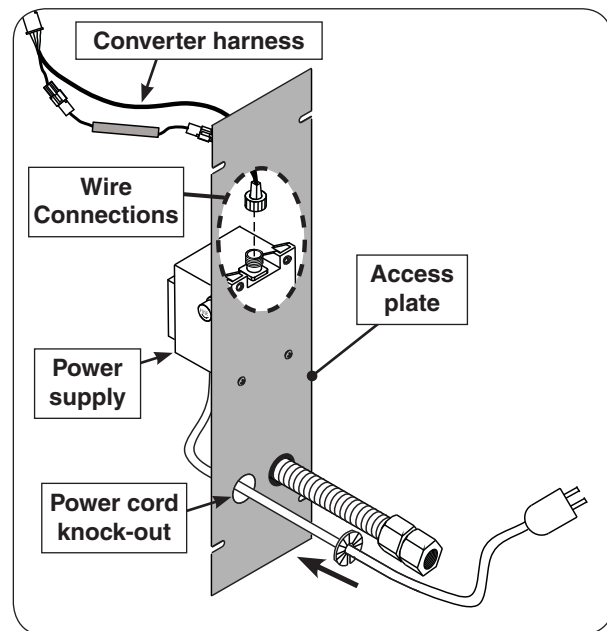

Fig. 19-1 Access plate view & orientation
A power supply is pre-mounted to the access plate. For ease of installation, disconnect the converter harness from the power supply. Locate the wires coming from the inside of the post to the power supply and carefully disconnect (see Fig. 19-1 and 19-2).
4. Install the bushing onto the power cord and slide the bushing up against the access plate knock-out hole and snap into place. See Fig. 19-1.